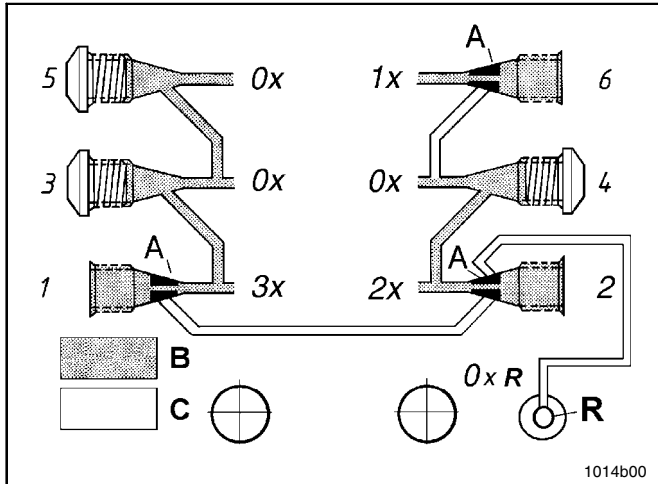

Fig. 1 Single double and triple lubricant output, on rear side mounted divider blocks
A single output is the lubricant quantity fed to the lube point by a piston per stroke and outlet port. **It amounts to approximately 0.2 cm3**, see outlet 6, fig. 1.
- Lubricant from a plugged outlet is redirected to the next outlet on the same side of the SSV divider block in descending numerical order (see fig.1).
- Example, see fig. 1:
- ➔ Install a closure plug in each outlet port hole which is not required, see fig. 1 or 4.
- The remaining outlets are to be used for the connection to the lube point or for increasing the lubricant quantity (double or triple), see fig.1.
To change the outlet 2 for bearing lubrication, replace closure plug with check valve (Fig. 3), **then never close outlet 1, see fig. 1.**